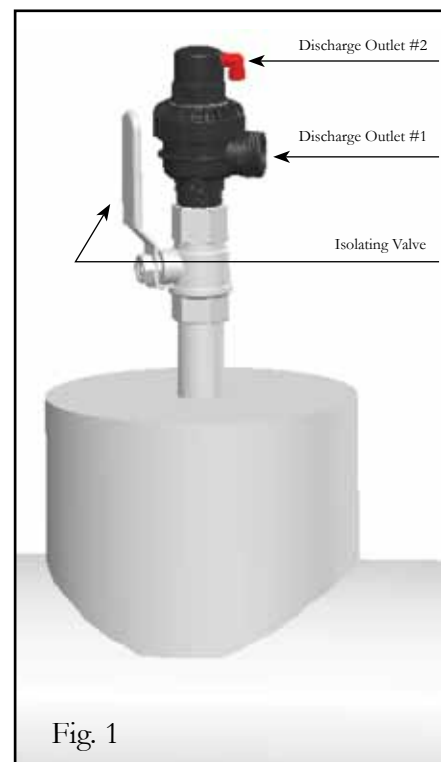
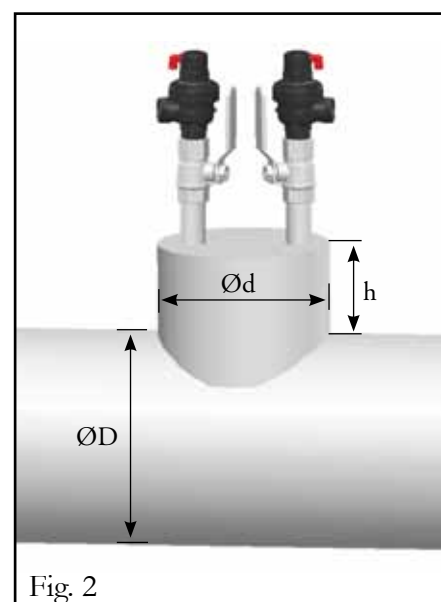

Fig. 1
Fig. 2
Installation of a riser: It is recommended to install the Model D-070-P air valve on top of a riser (see Fig.1). Diameter and height of the riser should be according to the following table (also see Fig. 2):
Manifold: When the valve is installed on a manifold, the air valves should be installed only on a welded manifold. They should be installed with the Discharge Outlet/Drainage Elbow openings facing in opposite directions (Fig. 2).
Drainage Elbow: It is mandatory that a Drainage Elbow be installed at the Discharge Outlet (#1); the diameter of the Drainage Elbow shall be at least the diameter of the Discharge Outlet #1 (Fig. 1).
Caution: Do not put hands or objects into the Discharge Outlet#1 (Fig. 1).
1. Shut the isolating valve (Fig.1) on the riser below the air valve.
2. Slowly open the Locking Ring (6) until water and air start to be released. Wait until all the water and air cease to be released before continuing